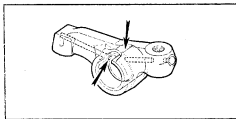

Fig. 13 - Correct position of rocker bush when fitted
- Position a new bush so that when pressed in the rocker the butt joint will be at the top and the oil groove at the bottom as shown in Fig. 13. Drill oil holes in the bush to coincide with the oilways in the rockers.